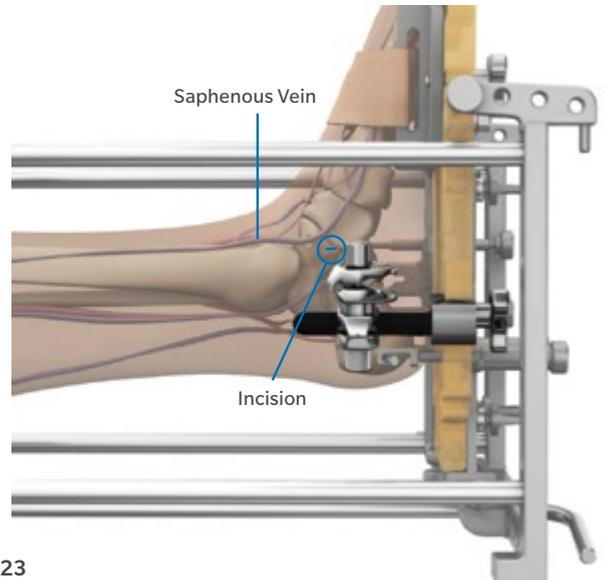

Fig. 23
- Adjust the position of the Talar Pin Connector on the Foot Plate and the clamp on the arm so that a pin can be inserted through the clamp and into the talar neck (Fig. 23).
Make a small incision on the talar neck for pin insertion (Fig. 23).